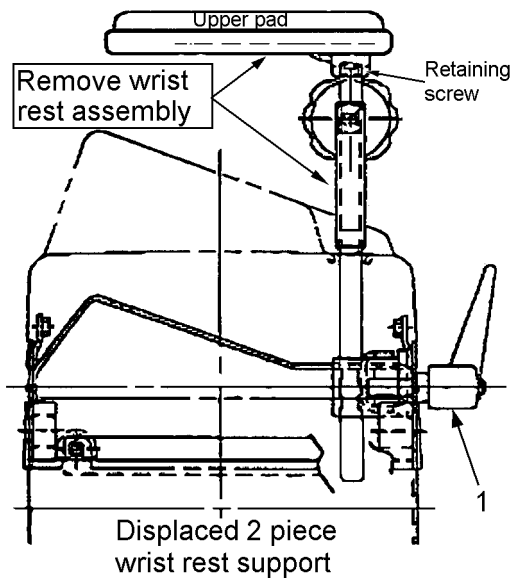

Figure 2
1. Loosen the lower adjustment lock handle, 1-figure 2. Lift the complete wrist rest and support assembly from the right console.
2. Remove the upper pad attach bolt. Retain the pad and bolt and discard the remaining parts. They are no longer required. Refer to Figure 2.